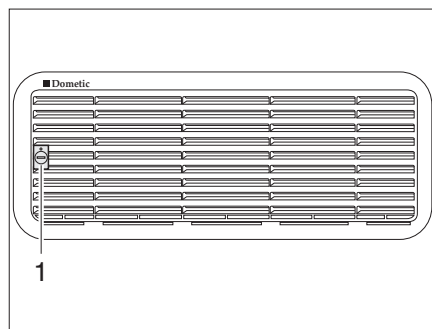
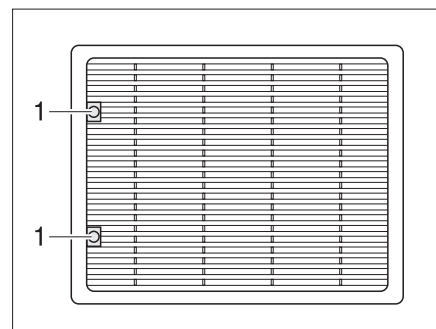

Fig. 314 Refrigerator ventilation grill (Dometic small)
Fig. 315 Refrigerator ventilation grill (Dometic large)
- Turn screw (Fig. 314,1 or Fig. 315,1) one quarter turn using a coin.